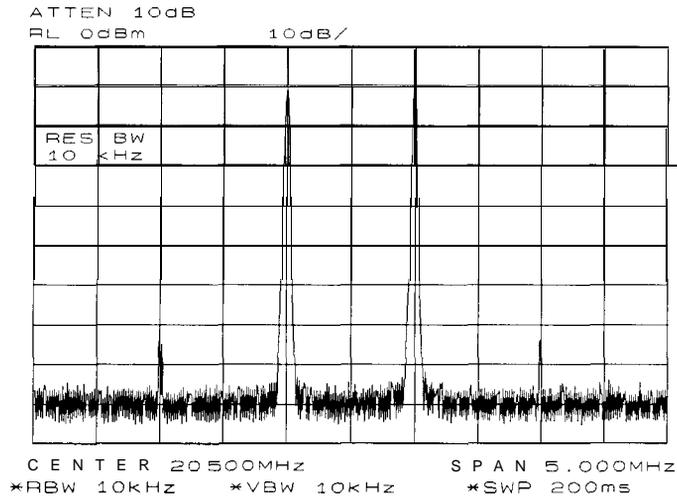

Figure 2-22. Signals Centered on Spectrum Analyzer Display
7. Using the knob, center the two signals on the display, as shown in Figure 2-22.